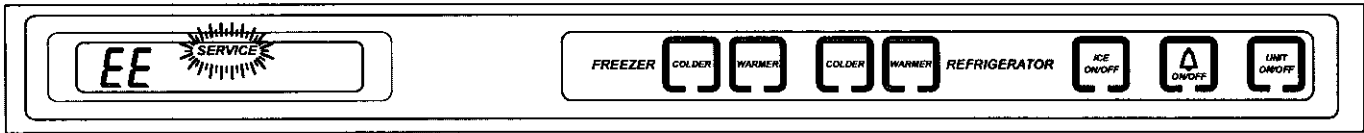

Figure 3-43. 700TF/I-3
- For Model 700TF/I-3, See Figures 3-43 through 3-47